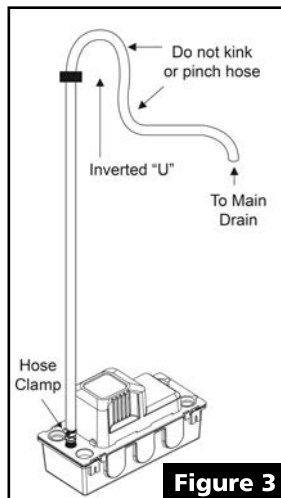

Figure 3
3. For optimum performance, slope the outlet tubing from the highest point slightly downward towards a drain. If it isn't possible to direct the discharge in a continuous downward slope, make an inverted "U" trap above the pump at the highest point. See Figure 3.